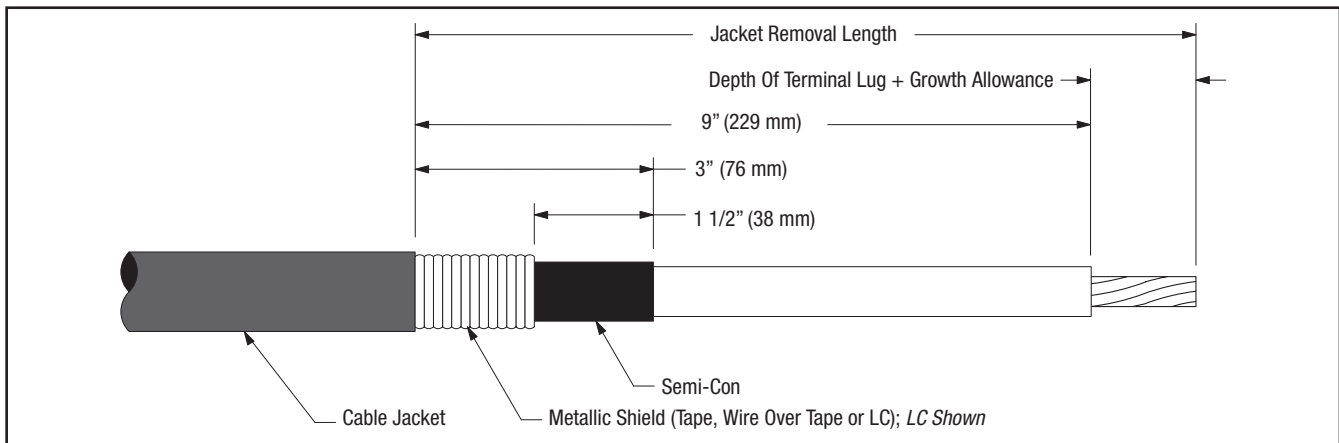

Figure 1
- 2.2 Prepare cable using dimensions shown in Figure 1. **BE SURE TO ALLOW FOR DEPTH OF TERMINAL LUG.** If necessary to prevent metallic shield from unrolling, hold down edge with a single wrap of 3M™ EMI Copper Foil Shielding Tape 1181.